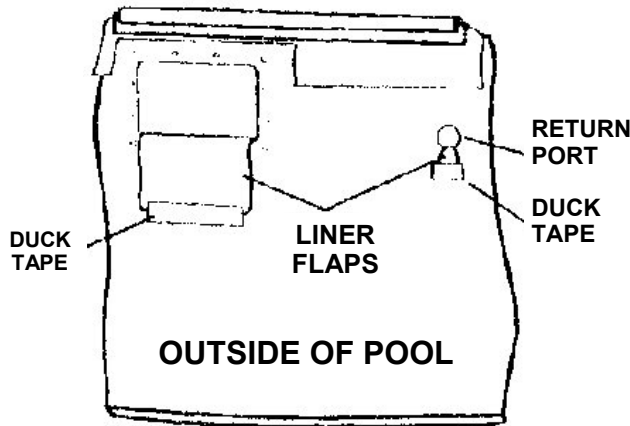

FIG. 1 — Stretch-in liner shown
1. To install the large skimmer u-gasket, trim the liner from the skimmer opening leaving the entire bottom edge uncut (see Fig. 1). Pass the hanging liner material through the skimmer opening to outside the
opening to outside the pool wall, and tape down the liner flap as shown (see Figure 1).